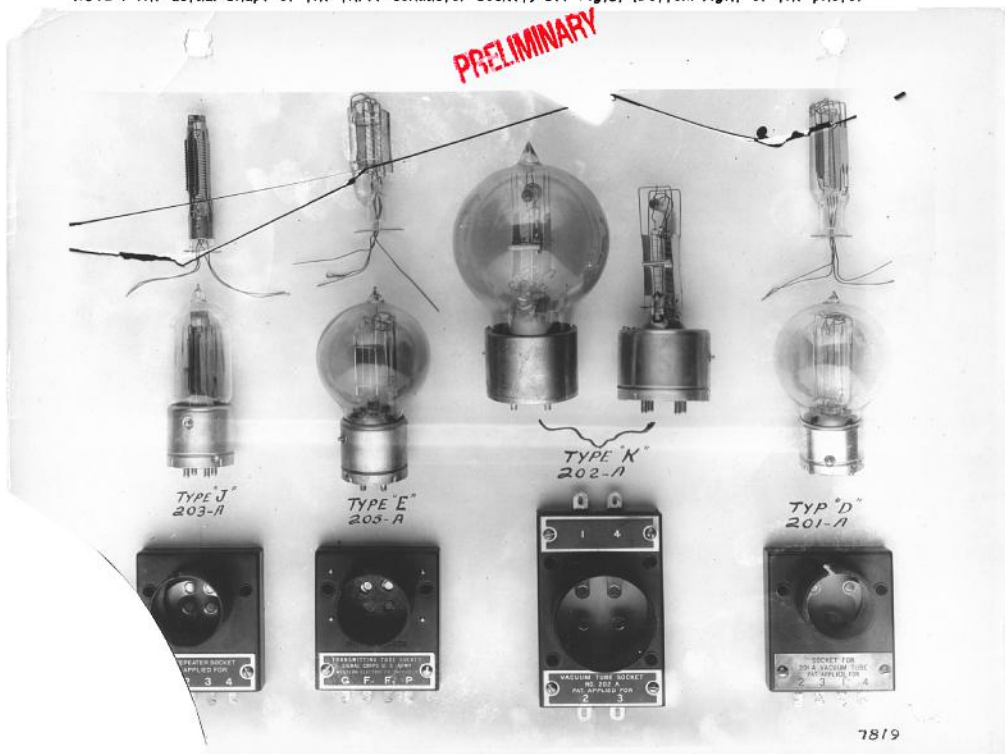

FIG. 6
**Socket— 201A** : Navy, three-contact, bayonet-slot type, with bayonet contact, preferably provided with contact-metal contacts. (refer to Figure 6, bottom right of photo)
注：3接点ソケットの実際の形状は、Fig.6 を参照。(写真の右下)
NOTE: The actual shape of the three-conductor socket, see Fig.6. (Bottom right of the photo)